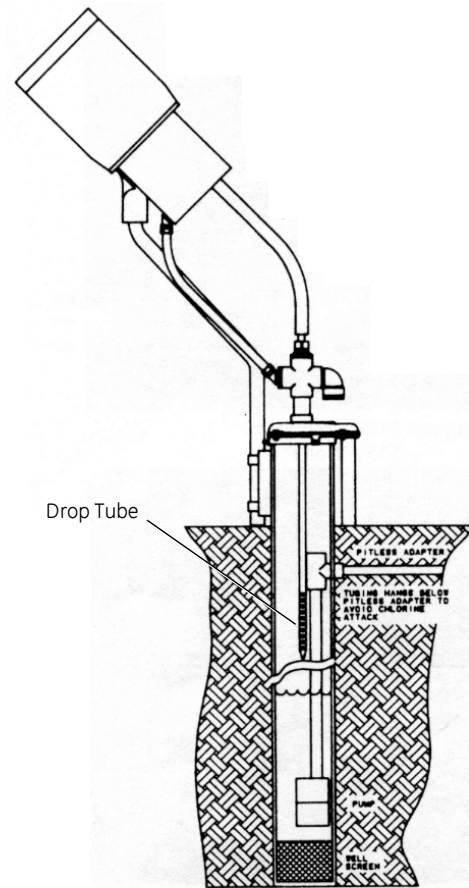

Figure 6
2. The drop tube should extend below the pitless adapte, Figure 6.